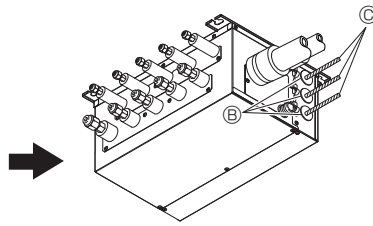

Fig. 9-2
3. Pass the wiring into the branch box. (Fig. 9-2)